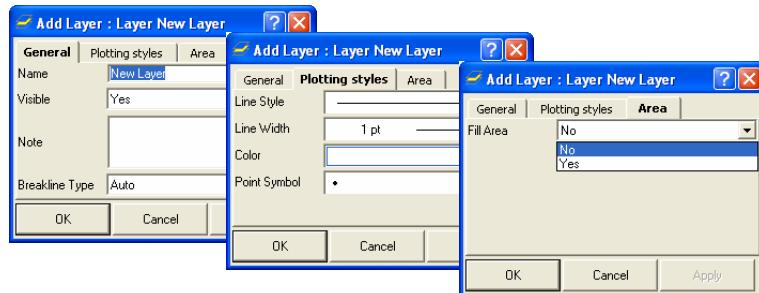

Figure 5-65. Enter and Select Layer's Attributes
2. Enter the following general information for the layer (Figure 5-65 on page 5-50):
3. Select the following plotting information for the layer (Figure 5-65):
4. Select **Yes** to fill the areas of this layer (Figure 5-65).